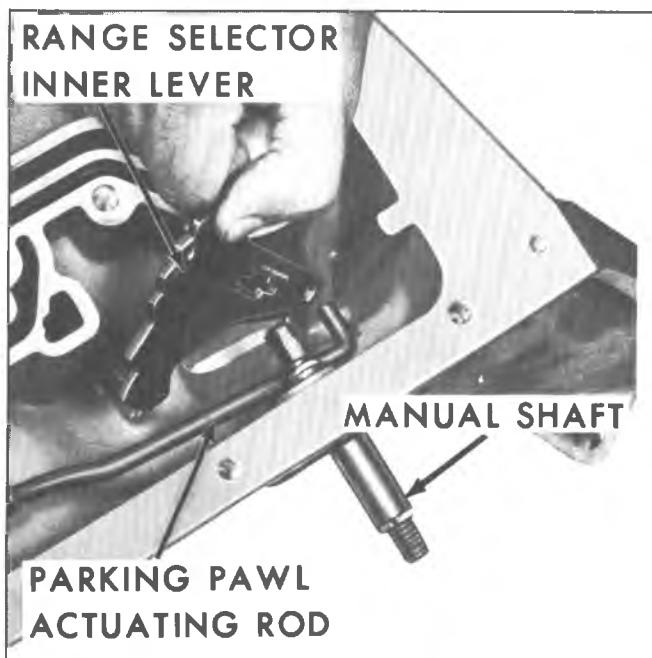

Fig. 20M--Removing Manual Shaft and Inner Lever and Parking Pawl Actuator Rod from Case
10. Remove range selector inner lever from manual shaft. Remove manual shaft from case. Remove inner lever and parking pawl actuator rod from case. Disassemble inner lever from parking pawl actuator rod (fig. 20M).